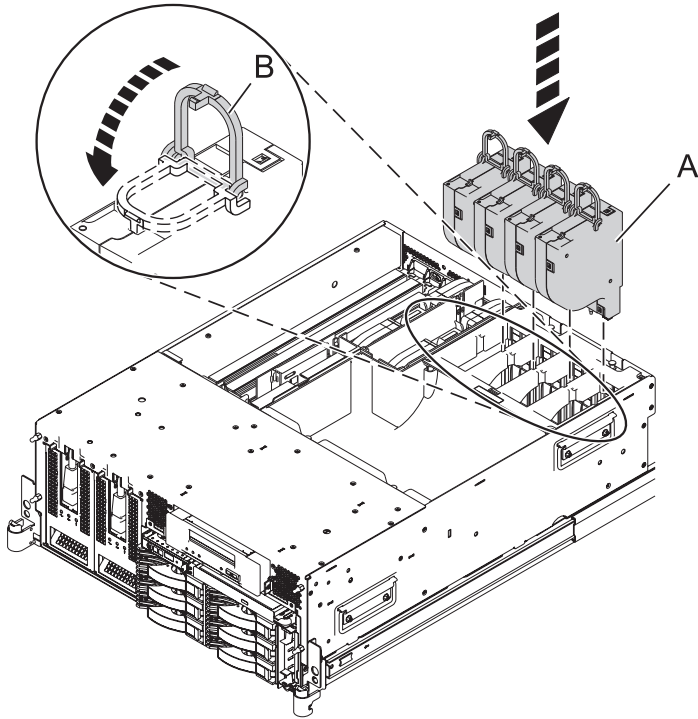

Figure 34. Installing the fans in the 8203-E4A, 8261-E4S, 9407-M15, or 9408-M25 airflow cover
- 2) To install the fans, insert each fan (**A**) into its location in the airflow cover, push down on the fan until it locks into place, and close the latch (**B**), as shown in Figure 34 on page 32.